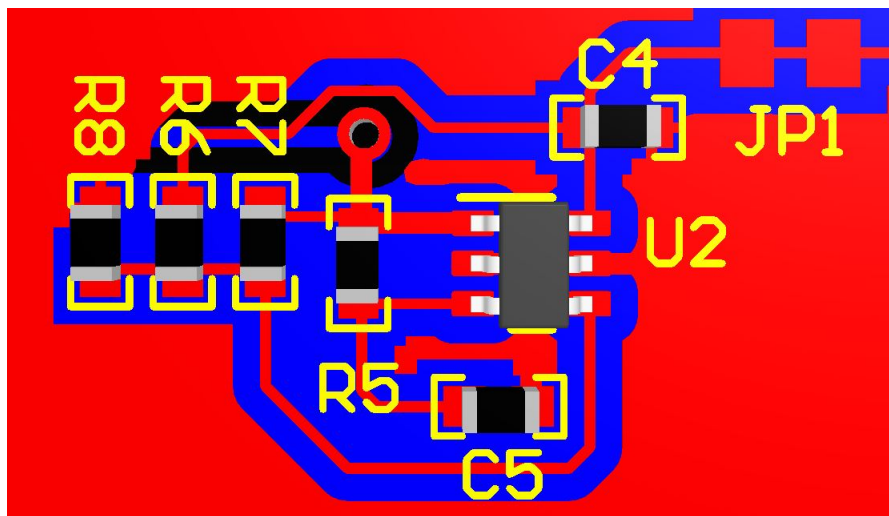

Figure 73. Oscillator Circuit Layout Example
- To minimize supply noise, place a decoupling capacitor (0.1- μF ceramic, surface-mount capacitor) as close as possible to V_S as shown in Figure 73.